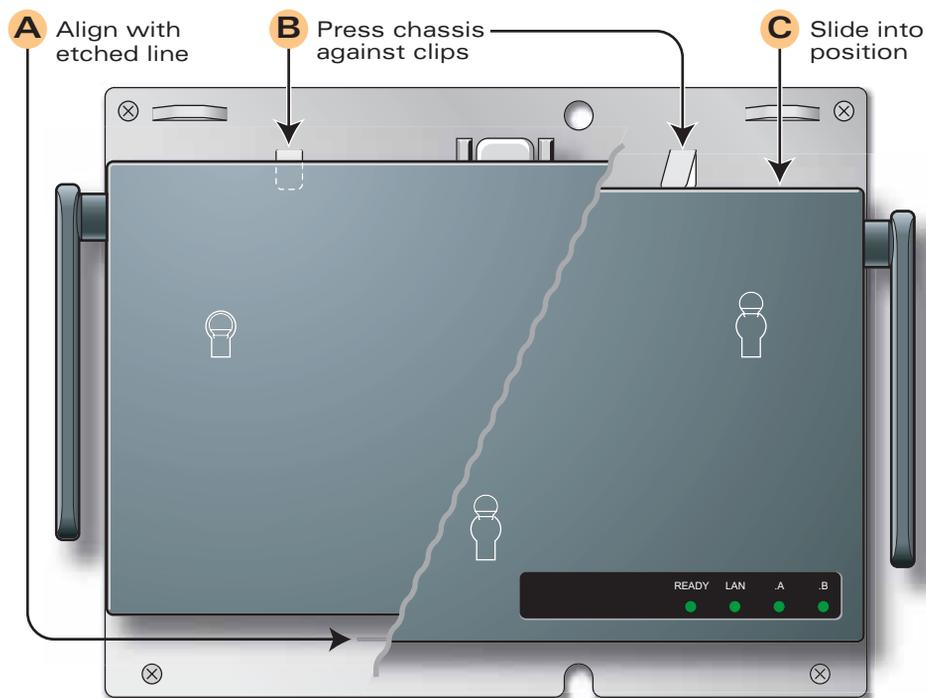

FIGURE 2-6 Placing the Aruba 52 into the Cradle
- 2 Place the Aruba 52 into the mounting cradle as shown in Figure 2-6.
- 1 Place the Aruba 52 into the mounting cradle as shown in Figure 2-6 on page 22.